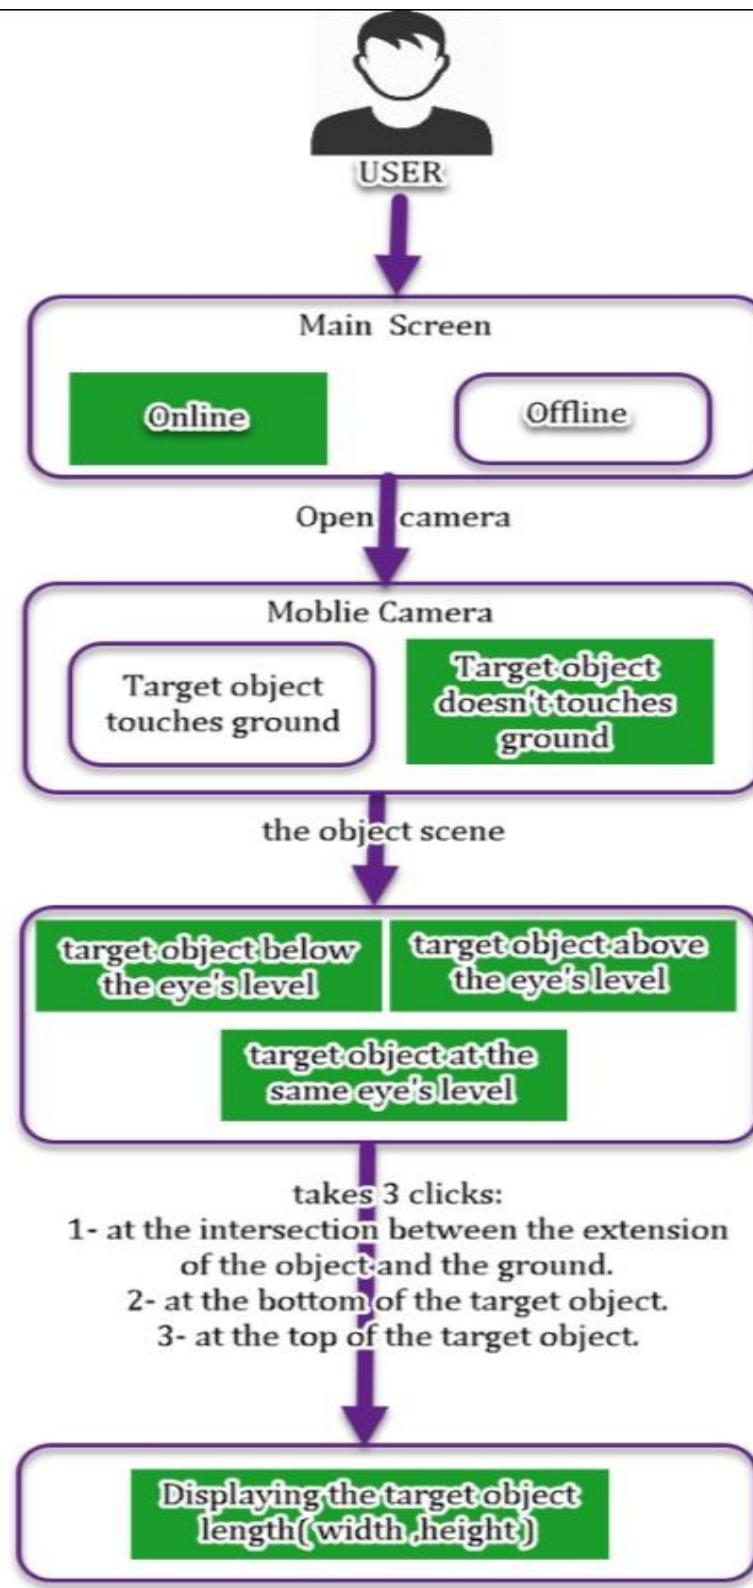

FIGURE 3 : ON-LINE MODE (TARGET OBJECT DOESN'T TOUCHES GROUND)
- Scale Hypsometer: uses a combination of laser rangefinder and clinometer to measure distances to the top and bottom of objects, and the angle between the lines from the observer to each to calculate height (see Fig. 3).